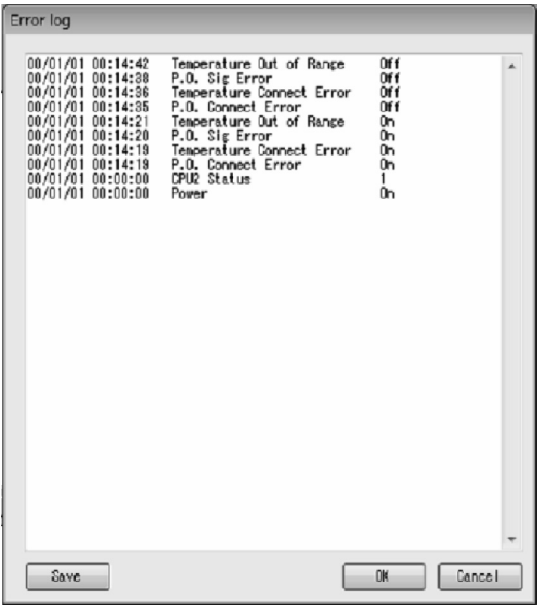

Fig.154
- ① Click the "Maintenance (M)" menu, and then select and click "Error log" from the "Maintenance xmtr" drop-down list.
- ② The following window will be displayed (Fig. 154).